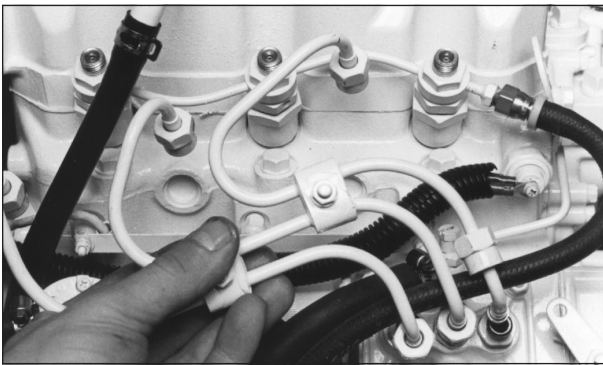

Figure 9: Remove delivery lines.
- c. Remove delivery lines by disconnecting from injectors and injection pump (Figure 9). Remove all lines as an assembly; do not remove the spacers. Cover the ends of the lines, the injector inlets and injection pump outlets to keep dirt out.